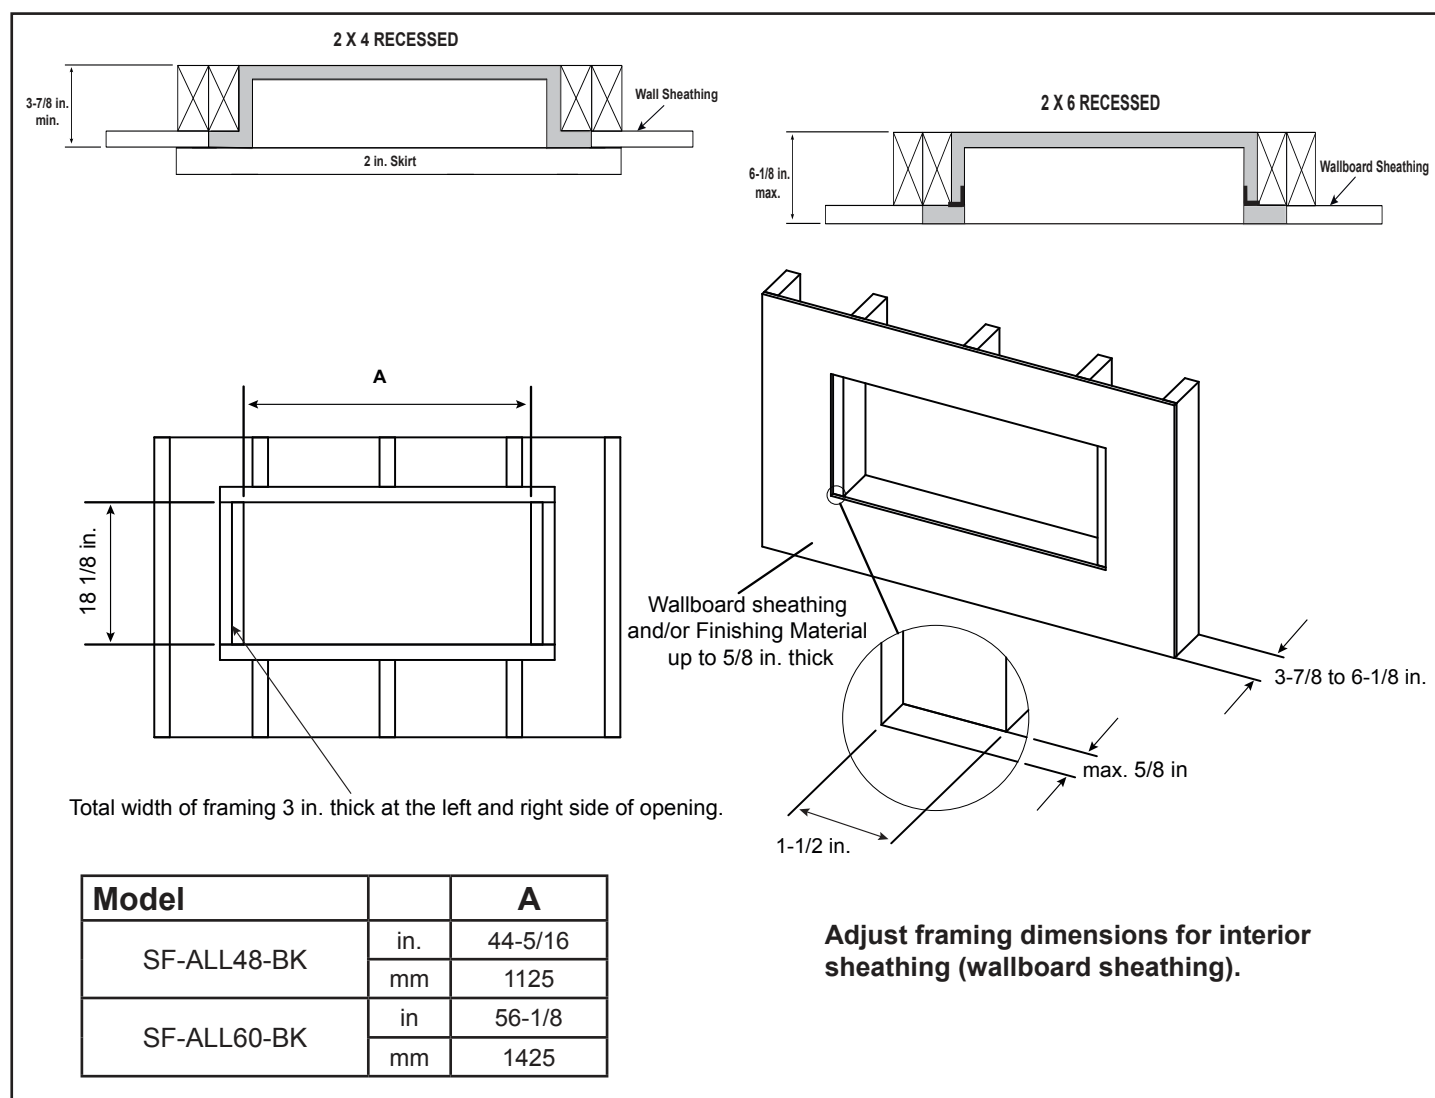

Figure 4.1 Framing and Wall Finishing for Recessed Installation
- The width of the framing on each side of the opening must be 3 in. with 1-1/2 in. framing on the left and right sides of the opening exposed. This is needed for the wallboard finishing and to secure the appliance into the opening. See Figure 4.1.
- Allow 1-1/2 in. of wood exposed after finishing the wallboard. See Figure 4.1 and Figure 4.6.
- The width of the framing on the left and right sides of the opening must be 3 in.. This is needed for the wallboard finishing and to secure the appliance into the opening. See Figure 4.1.
- Allow 1-1/2 in. of wood exposed after finishing the wallboard. See Figure 4.1.